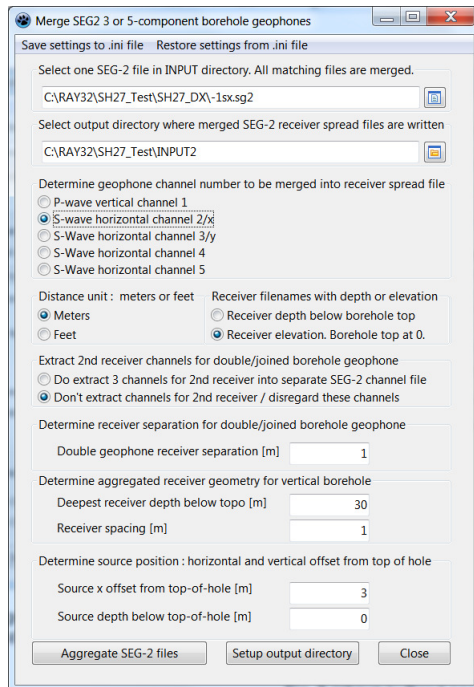

Fig. 5 : click SEG2 HoleMerge 5.02 icon. Edit as shown. Click buttons *Setup output directory* and *Aggregate SEG-2 files*.
6. open SEG2 HoleMerge 5.02 program via desktop icon. See Fig. 5 .
10. in frame **Determine geophone channel number to be merged** click radio button **S-wave horizontal channel 2/x**. See Fig. 5.
12. in frame **Determine aggregated receiver geometry for vertical borehole** set **Deepest receiver depth below topo [m]** to 30. Set next field **Receiver spacing [m]** to 1. See Fig. 5.